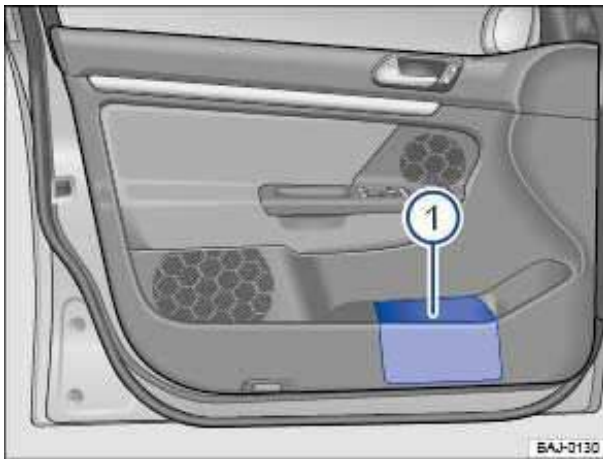

Fig. 109 In the driver door: Storage compartment.
There is a storage compartment in the driver door ⇒ fig. 109 (1).